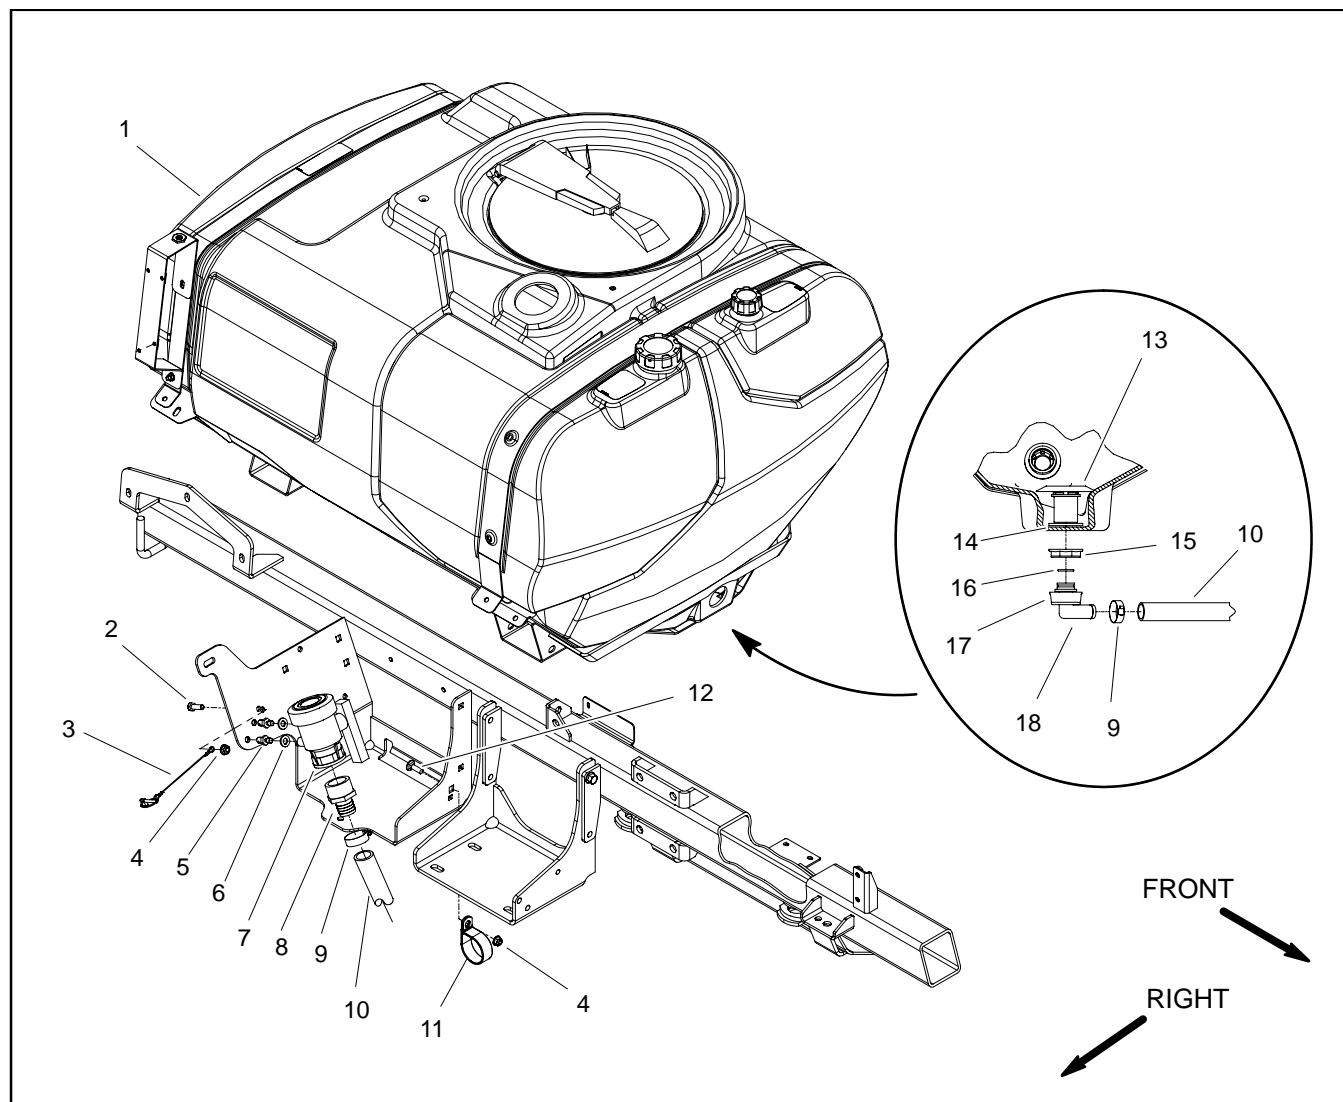

Figure 55
Disassembly (Fig. 55)
4. Disassemble drain assembly using Figure 55 as a guide. Discard all removed O-rings and gaskets.
Assembly (Fig. 55)
1. Assemble drain assembly using Figure 55 as a guide. Replace all removed O-rings and gaskets.